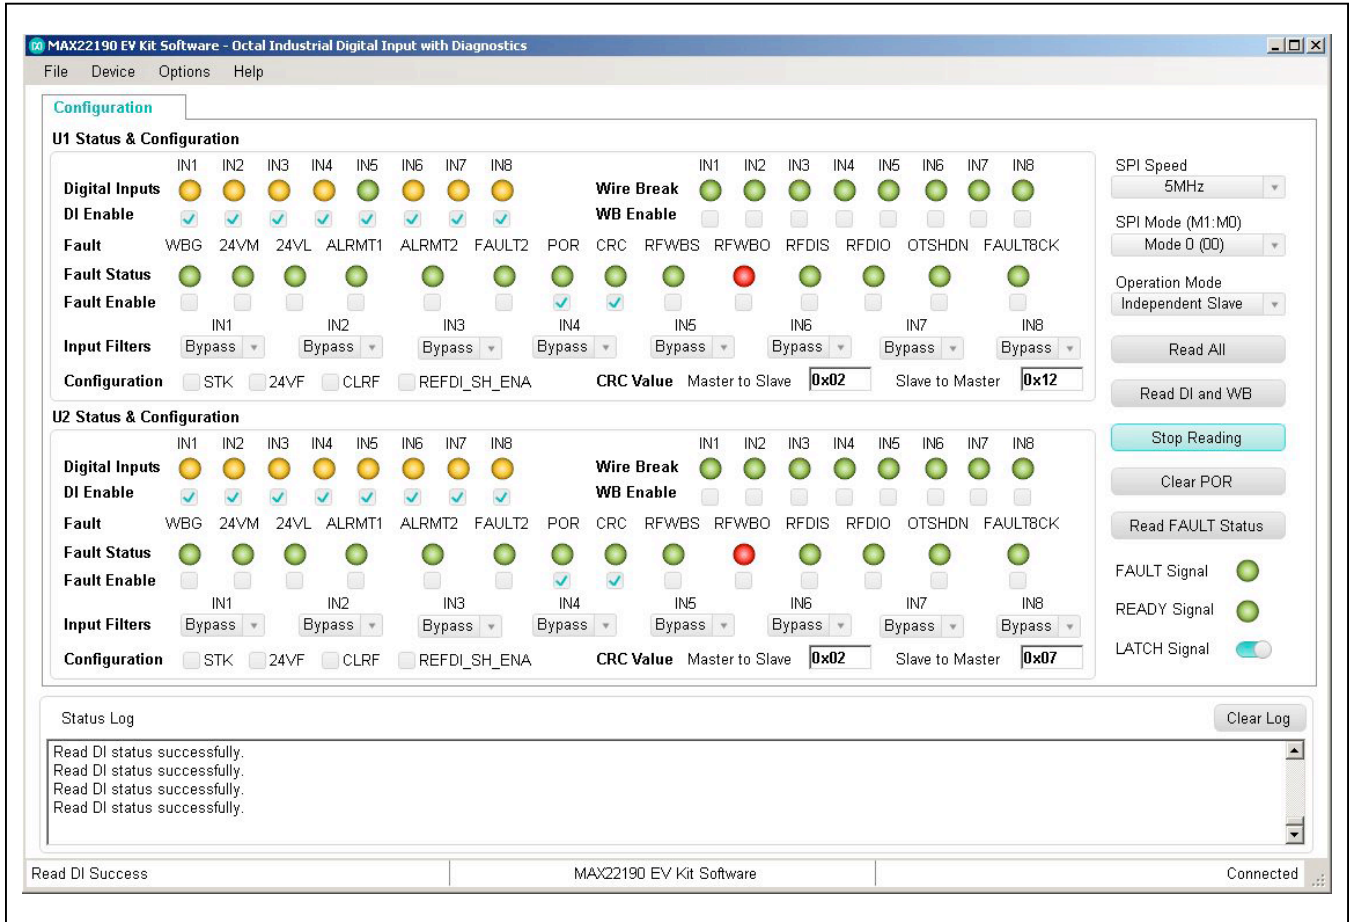

Figure 4. MAX22190 EV Kit Software—Read DI Continuously
- 15) Click **Read DI Continuously** button. The EV kit software reads the U1 and U2 DI registers continuously. Connect the 24V DC voltage to one of the input test points, for example, test point U1\_IN5. The corresponding **Digital Inputs** status light **IN5** is changed to green from yellow to indicate U1 channel IN5 is high as shown in Figure 4.